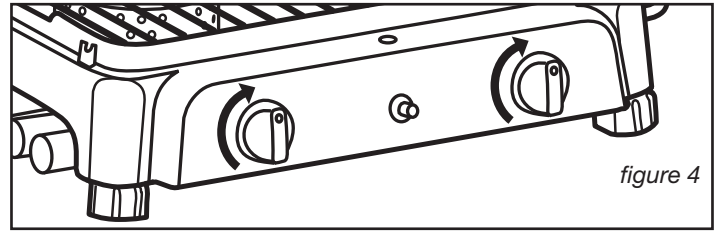

figure 4
2. Be sure appliance valves are shut off as shown in figure 4.